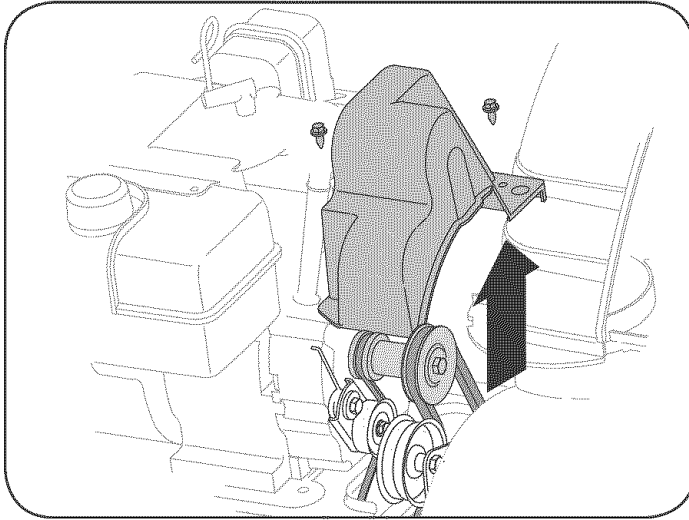

Figure 18
1. Remove belt cover by removing the two self-tapping screws that secure it to the snow thrower housing. See Figure 18.